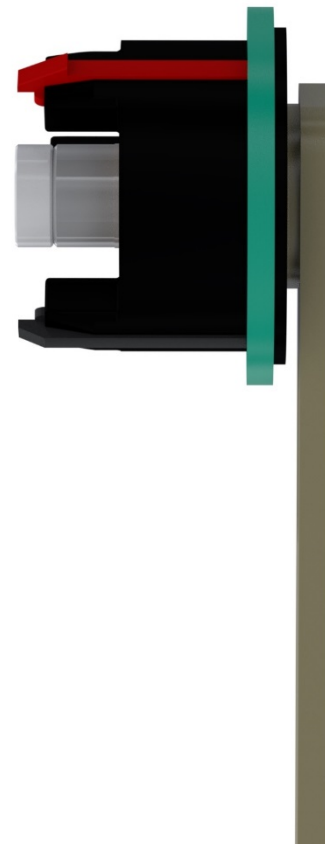

Figure 7-11
2. Push the Spacer Ring all the way on the mandrel hub as shown in **Figure 7-11**.